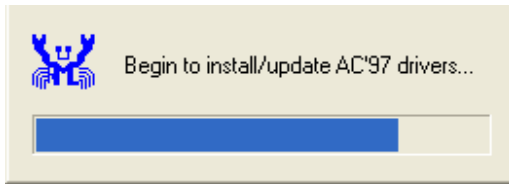

Figure 7-24: AC'97 Driver Installation
Step 10: The driver installation begins. See Figure 7-24.